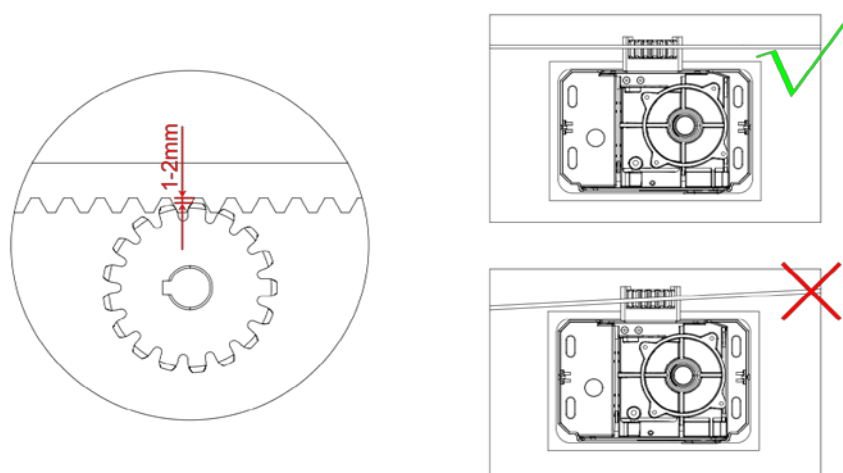

Figure 14
- Ensure that the output gear has a minimum clearance of 1 to 2 mm along the entire length of gear rack fitted to the gate (as per Figure 14)
- Ensure output gear and gear rack are correctly aligned. Under no circumstances should the gate opener output gear carry any weight of the gate. It is the task of the gate castors or wheels to carry the weight of the gate (as per Figure 14).